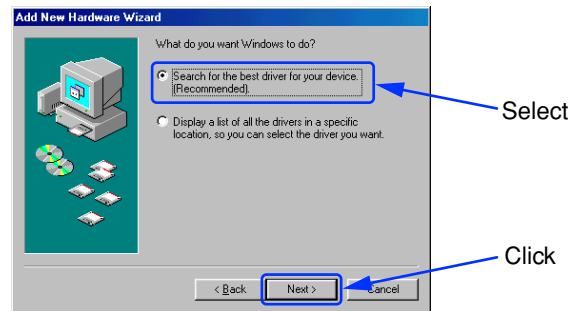

Fig. 3
- ⑦ When the screen [Windows driver file search for the device:] appears, click [Next >].
- ⑧ When the screen [Windows has finished installing the software that your new hardware device requires.] appears, click [Finish].
- ⑨ Because the USB port of the SRP-X700P is recognized as [Unknown Device], click [Next >].
- ⑩ Select [Search for the best driver for your device. (Recommended).] and click [Next >]. (Fig. 3)